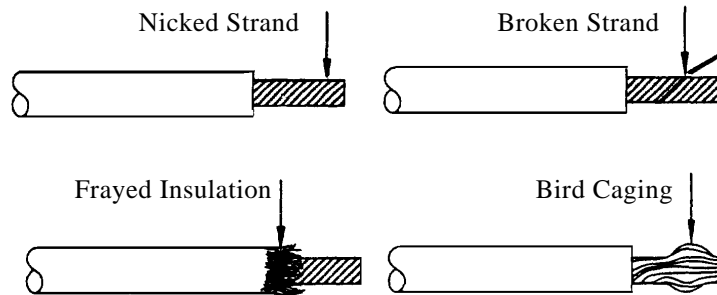

Figure 2. Unacceptable Stripped Wire Conditions
- c. Release handles slightly to remove the wire from the stripper. Assure the strands are twisted together in the normal direction of lay with no broken strands (see Figure 2 and paragraph 9).
The swivel blade stripper (see Figure 9) is a hand tool used to strip cable jackets with cable diameters of 1/4 to 1 1/2 inches and is available in three sizes as shown in Figure 2 and Figure 9. This tool has a swivel blade which automatically turns to the direction the tool is moved, which enables circular cuts to be made or axial cuts to be made. This type of tool may be used to strip a variety of insulations including, but not limited, to PVC, rubber, neoprene, Teflon, nylon, fiberglass, and fabric. As with all hand tools, exercise care to avoid injury and damages to wires and wire strands.